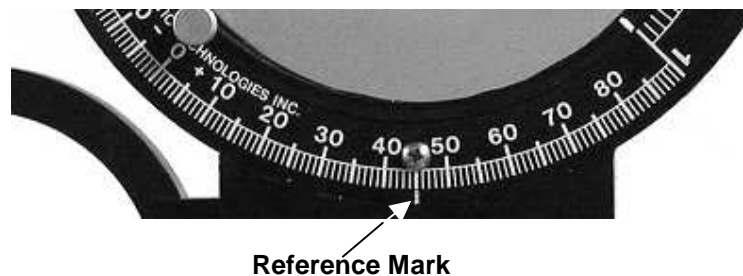

Figure 2. Bottom of analyzer dial showing reference mark for sample orientation.
3. Rotate the sample so that the reference mark on the analyzer (Figure 2) is parallel to the nearest edge of the glass.